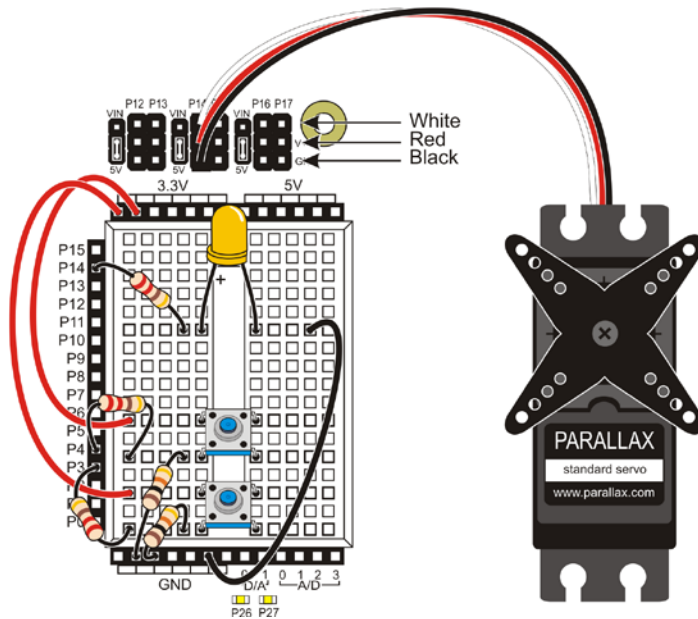

Figure 4-21
- Add this circuit to the servo+LED circuit that you have been using up to this point. When you are done, your circuit should resemble Figure 4-21.